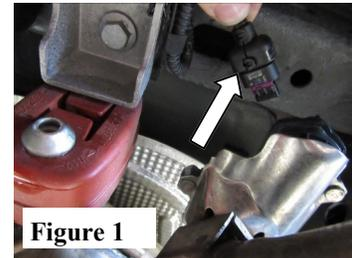

Figure 1
2. Locate exhaust electronic actuators on rear mufflers and carefully disconnect harnesses from muffler. These will be re-connected to transferred actuators on your new exhaust system. (See Fig. 1)